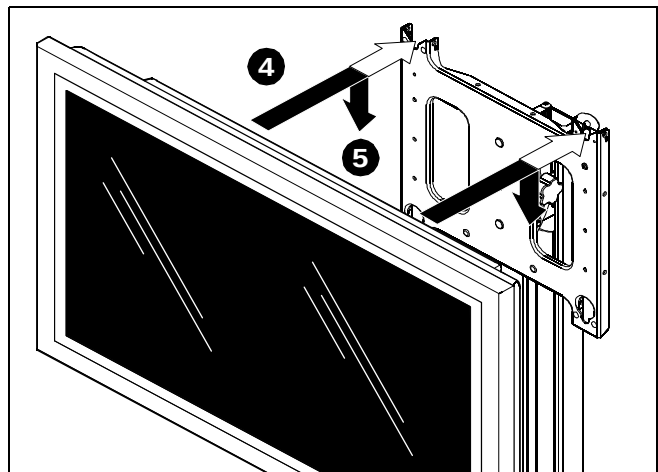
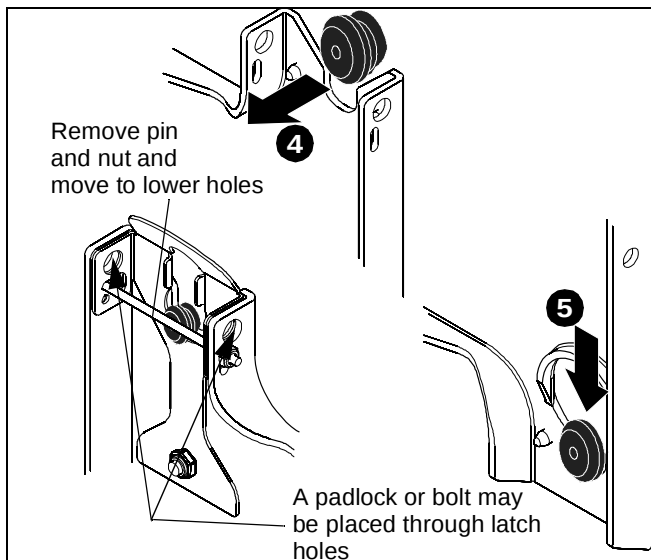

Figure 7
Figure 8
4. While supporting both sides of display, align four mounting buttons on display or interface bracket with four mounting holes in head assembly. (See Figure 7) and (See Figure 8)
- Lower display into place listening for audible "click" to ensure recessed area of mounting buttons are properly seated in lower area of mounting holes. (See Figure 7) and (See Figure 8)
NOTE: Holes are provided in the faceplate for use with a padlock or similar locking device, if desired. In addition, the pin and nut may be removed from the upper holes and moved to the lower holes for use as a more permanent locking device. (See Figure 8)